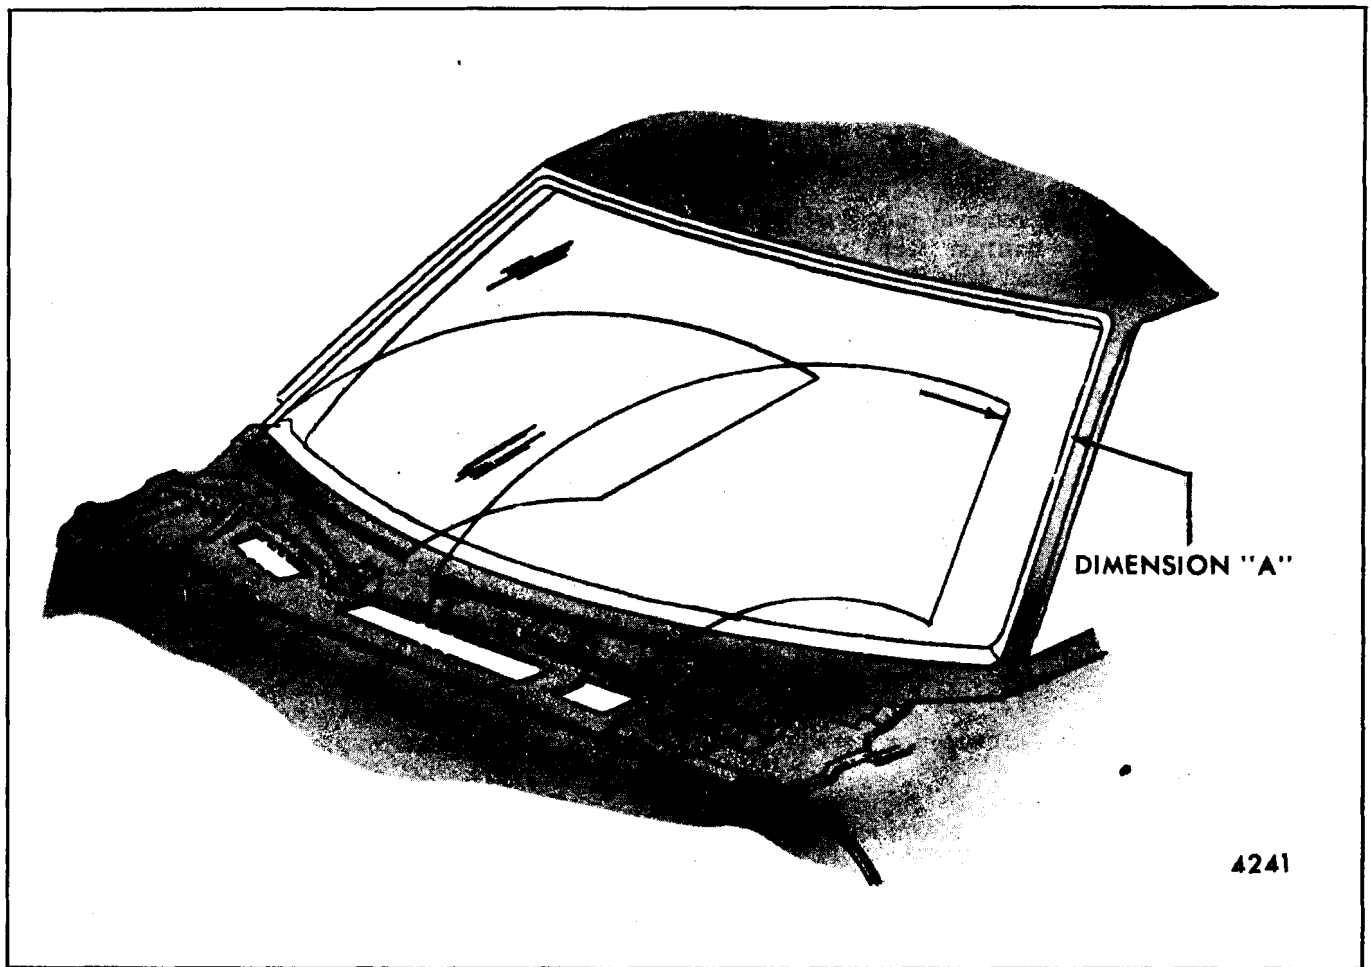

Fig. 2-30-Wipe Pattern
8. Check wipe pattern (Fig. 2-30) and park position. Dimension "A" shown in Figure 2-30 for various body styles is as follows: